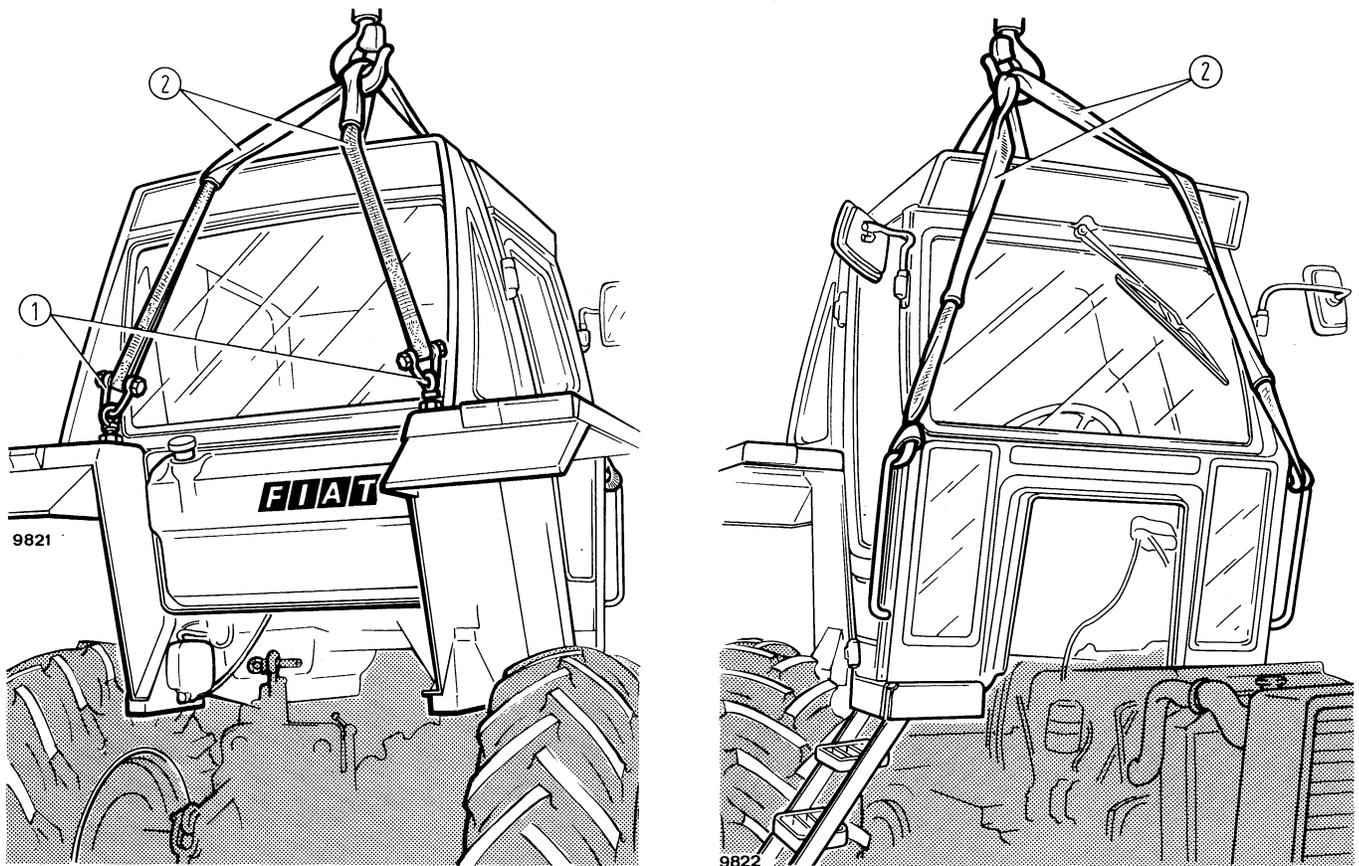

Fig. 2 - Removal - installation of cab together with platform
- Back off two capscrews securing cab to platform (one each side) and apply two hooks 292109 (1, Fig. 2).